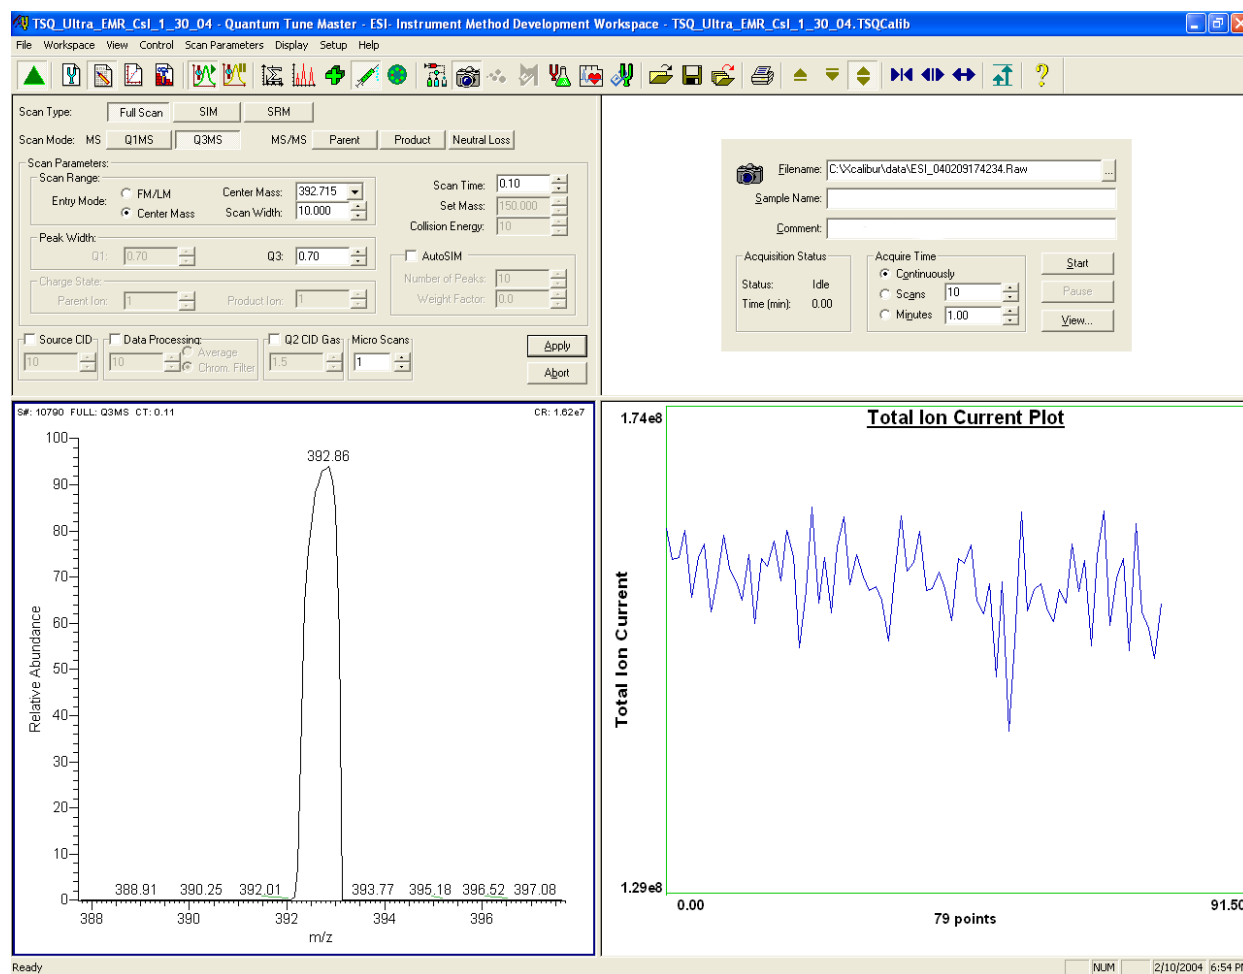

Figure 3-9. Instrument Method Development workspace, showing stable ion beam
- e. If the Creep toolbar button is not visible, click on the Normalize toolbar button and/or the Fixed toolbar button to invoke the creep Y-axis normalization mode. This allows you to observe the relative intensity of the ion at m/z 392.715. See Figure 3-9.